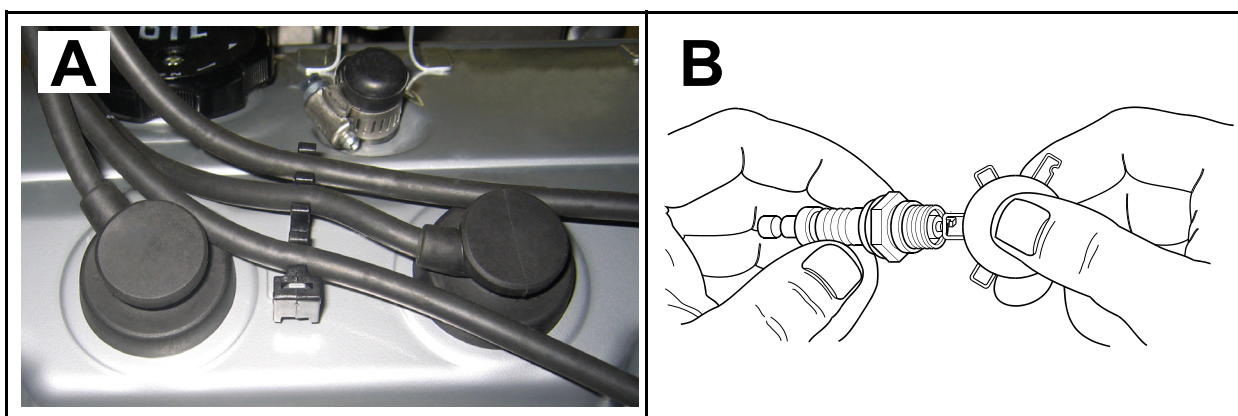

Figure 5-15. Adjust Spark Plug Gap
2. Remove spark plug cables from spark plug terminals. See A of Figure 5-15
7. See B of Figure 5-15 Check spark plug gap using a wire feeler gauge. Adjust gap by carefully bending ground electrode as follows: